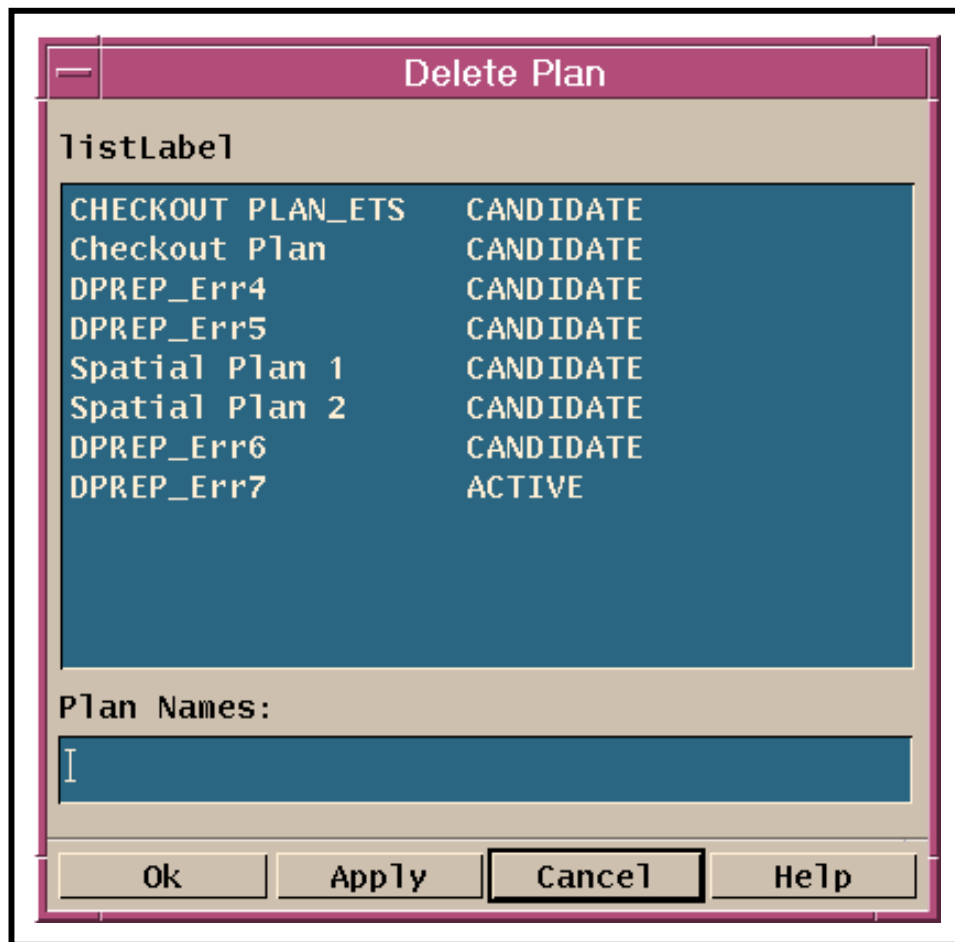

Figure 48. Delete Plan Window
- The **Delete Plan** window (Figure 48) is displayed.